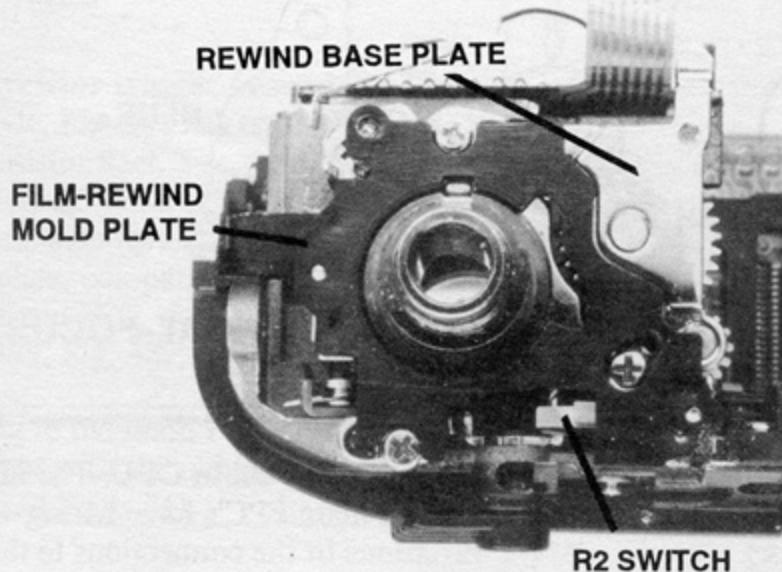

FIG. 41 TOP VIEW, ISO BASE PLATE REMOVED
Note: You can remove the film-rewind mold plate, Fig. 41, together with the ISO base plate by leaving the switch connections soldered. However, if you're replacing the main FPC, remove the film-rewind mold plate.
Note: You can remove the rewind base plate, Fig. 41, without removing the mirror box. If the mirror box is still installed, remove the rewind-end finder rail.
To remove the film-rewind mold plate, Fig. 41, together with the ISO base plate:
6. lift out film-rewind mold plate, Fig. 41
7. remove rewind base plate, Fig. 41 (3 screws)
Check by pushing in the back-switch pin, Fig. 3—you should feel the spring tension of the camera-back switch contact. If the back-switch pin is sliding under the camera-back switch contact, replace the film-rewind mold plate, Fig. 41, and the camera-back switch pin.